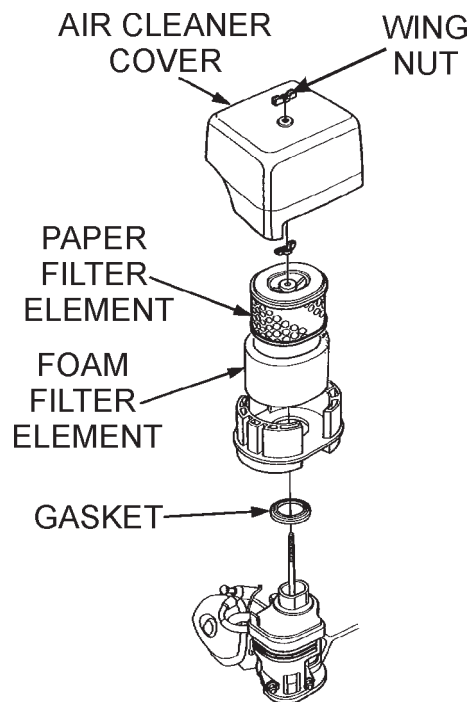

Figure 26. Engine Air Cleaner
- Remove the air cleaner cover and foam filter element as shown in Figure 26.
- Tap the paper filter element (Figure 26) several times on a hard surface to remove dirt, or blow compressed air [not exceeding 30 psi (207 kPa, 2.1 kgf/cm²)] through the filter element from the air cleaner case side. **NEVER** brush off dirt. Brushing will force dirt into the fibers. Replace the paper filter element if it is excessively dirty.